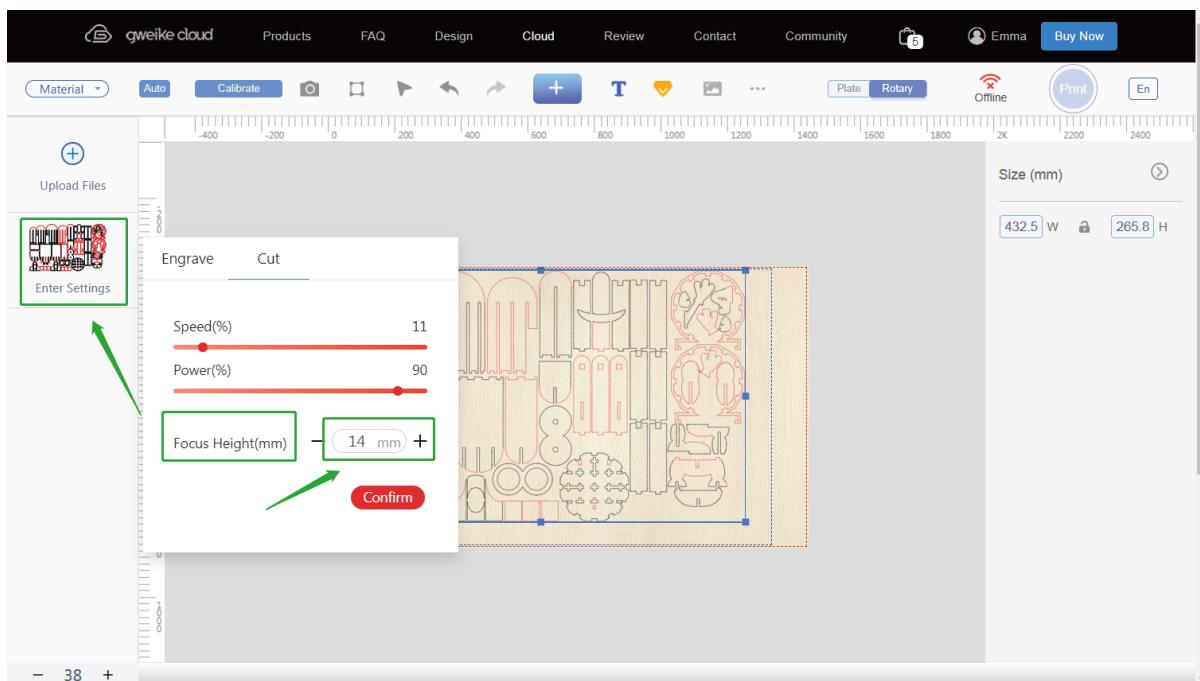

Figure 1
2) If the cutting material is of other thickness (within 0-17mm), place the material on the honeycomb panel, enter the website operation page, and click the blank area above the Select SVG on the left side of the page (as shown in the green box in Figure 1), in Focus Height Enter the parameters and click Confirm to complete (refer to Table 1 for focal length parameters). For example, when the material thickness is 2mm, the Focus Height is set to  $17\text{mm}-2\text{mm}=15\text{mm}$ . Enter 15mm in Focus Height. Among them, 17mm is a fixed value, and Focus Height value= $17\text{mm}-\text{material thickness}$ .